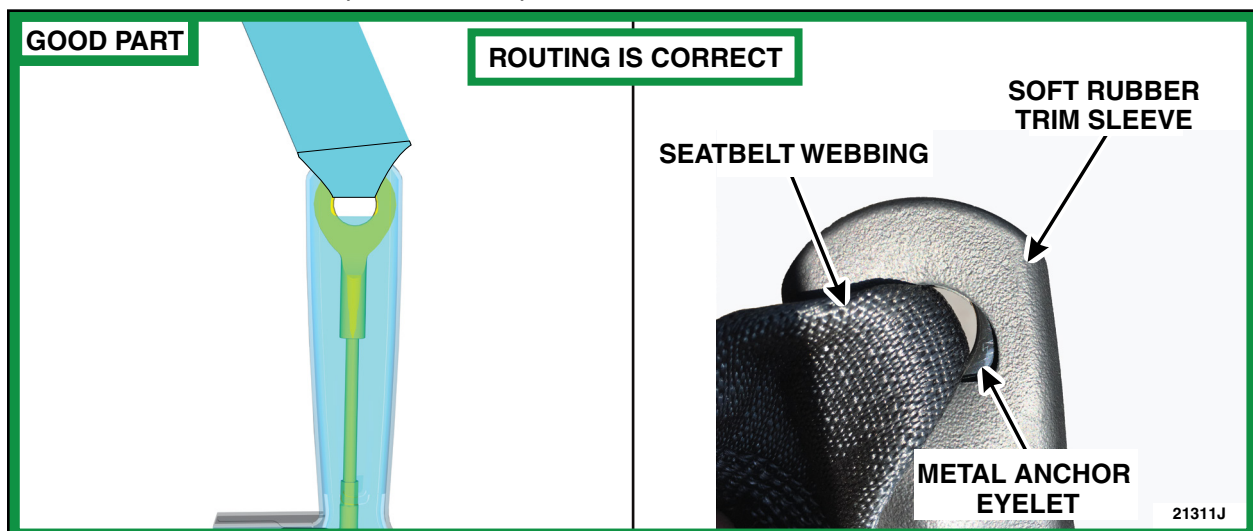

FIGURE 2
3. Visually inspect that the driver side front seatbelt webbing is routed through the soft rubber trim sleeve **AND** through the metal anchor eyelet. See Figures 2 and 3.